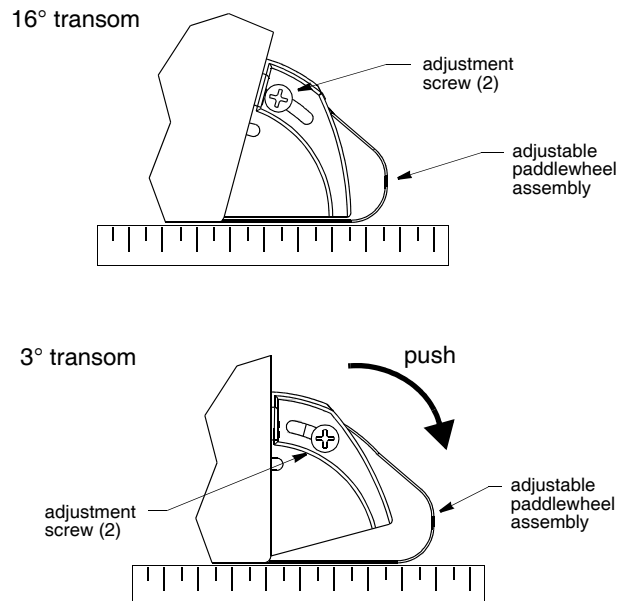

Figure 6. Angle adjustment
1. Holding a straight edge against the bottom of the hull, push the adjustable paddlewheel assembly down until it touches the straight edge and is flush with the bottom of the hull (Figure 6). Tighten the adjustment screws to 1/4 turn past snug. *Do not over tighten.*